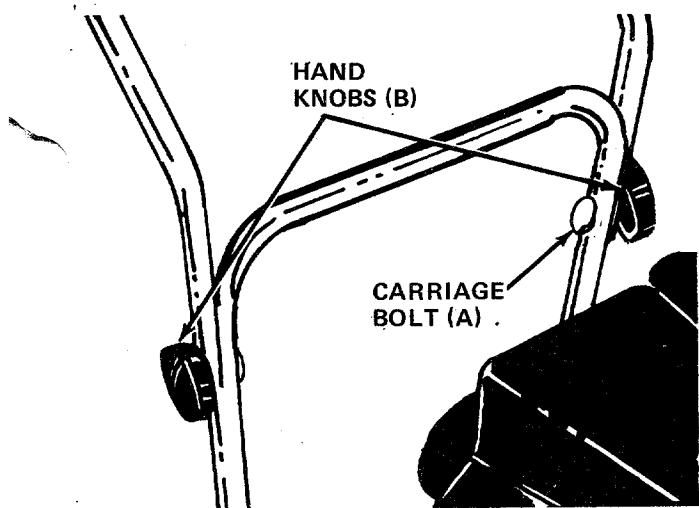

FIGURE 4.
3. Place the upper handle (D) over the lower handle, lining up the holes. Secure with carriage bolts (A) and hand knobs (B). See figure 4.